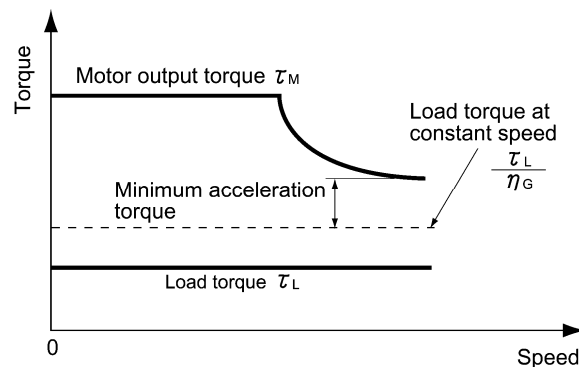

Figure 3.4 Example Study of Minimum Acceleration Torque
- 2) Calculate the required minimum acceleration torque (See Figure 3.4)